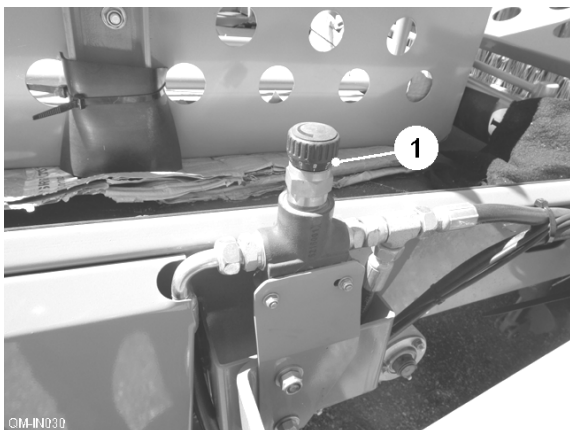

Fig. 23
A 2-man or a 4-man Easi-pic table can be fitted to the rear of the harvester. The speed of the picking belt is controlled by a flow control valve (item 1, fig. 23) mounted on the RH side of the unit. The knob on top of the valve controls the speed, a higher number giving a higher speed. Emergency stop buttons are fitted above the picking belt which, when pressed, shut down all hydraulic drives and electrical controls. Communication buzzer buttons are also fitted. A system of communication between the tractor driver and the pickers should be adopted to prevent any misunderstanding of signals.